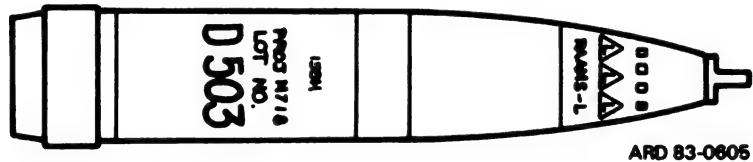

Figure 211.14.1. M718 projectile.
(15) *Projectile, 155-mm, HE, remote, anti-armor mine system, M718 (fig. 211.14.1).* This projectile is used to deliver high-explosive antitank mines in front of enemy forces to deny/delay access to a particular area for a specific time period. This projectile is from the family of scatterable mines (FASCAM) and is the ammunition for the remote anti-armor mine system (RAAMS). It is painted olive drab with yellow markings. The most significant markings are the row of yellow triangles between the nose and bourrelet which contain the letter "L" and "RAMM-L" on the